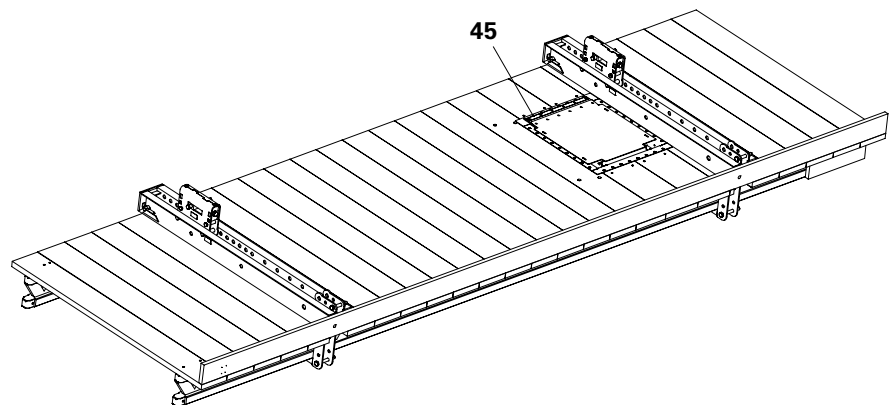

Fig. B1.13b
2. Secure frame of the hatch and decking using approx. 16x TSS Torx 6 x 40 (45) (2 per plank). (Fig. B1.13b)